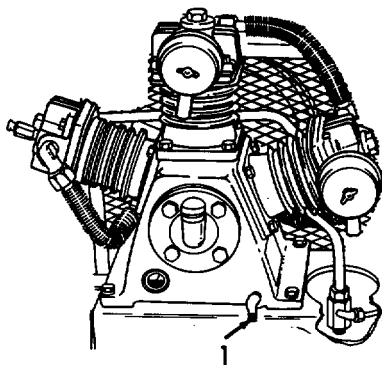

Figure 3-1. Oil Draining.
- a. Refer to Figure 3-1. Place a suitable container under the air compressor oil drain plug (1).
- b. Remove the drain plug (1) and allow the oil to completely drain from the crankcase.
- c. Reinstall the drain plug (1). Discard the used oil.